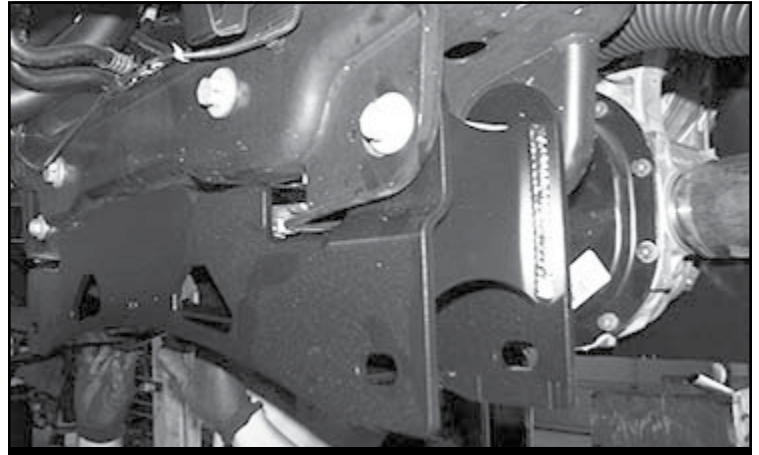

FIGURE 31 - STEP 30
30. Locate the Fabtech front crossmember (FT30644BK). Install the front crossmember into the factory front control arm pockets using the factory hardware. Make sure the skid plate tab on the crossmember is facing the Fabtech rear crossmember. Leave the hardware loose at this time. **SEE FIGURE 31**